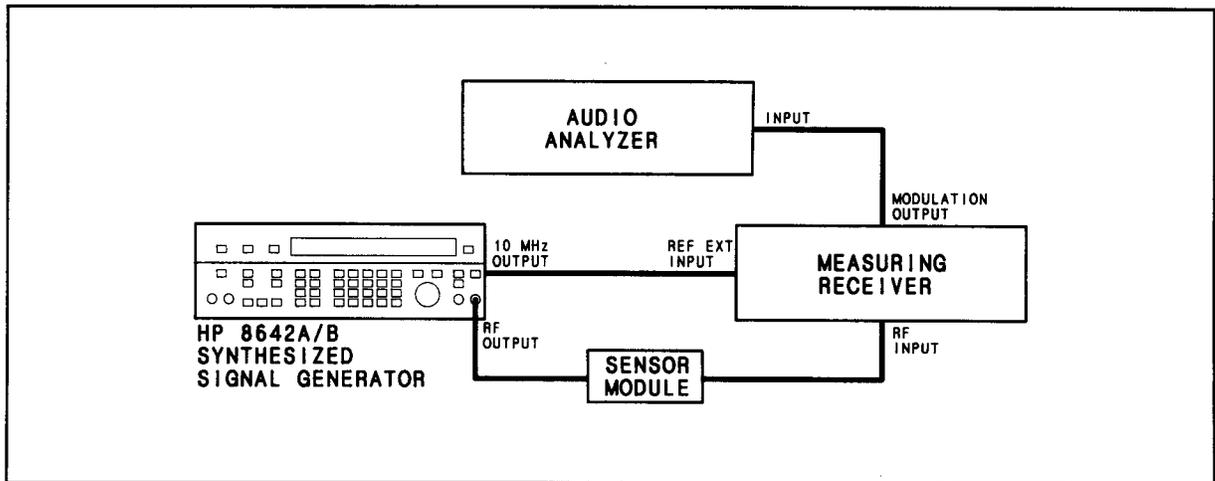

Figure 4-6. FM Distortion Test Setup
1. Connect the instruments as shown in Figure 4-6 and apply power.